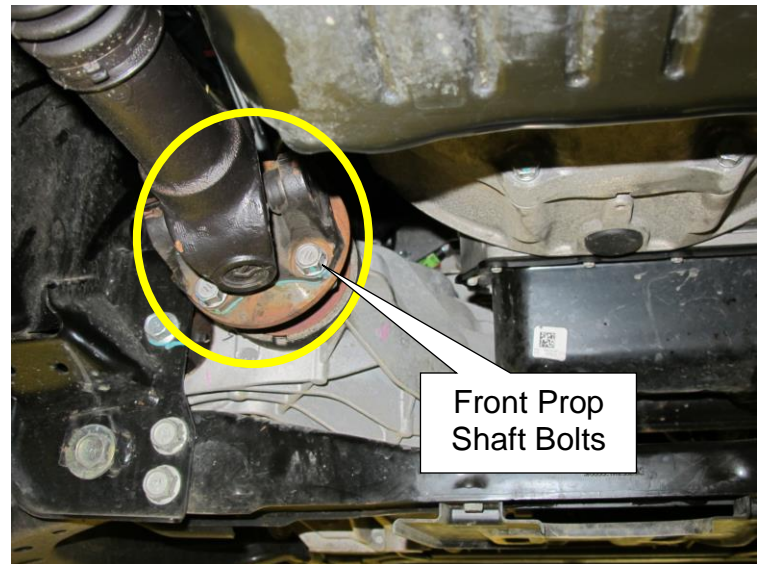

Figure 1
1. Locate the (4) front prop shaft bolts at the front differential (Figure 1).